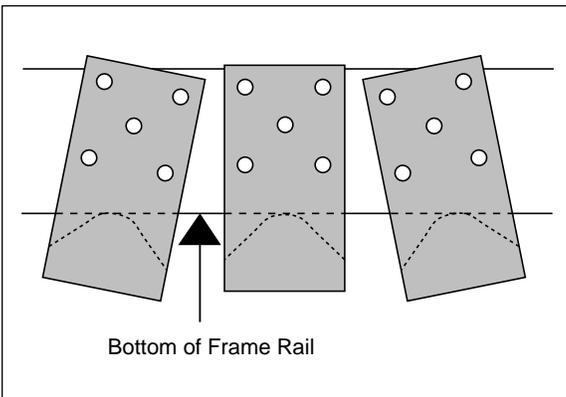
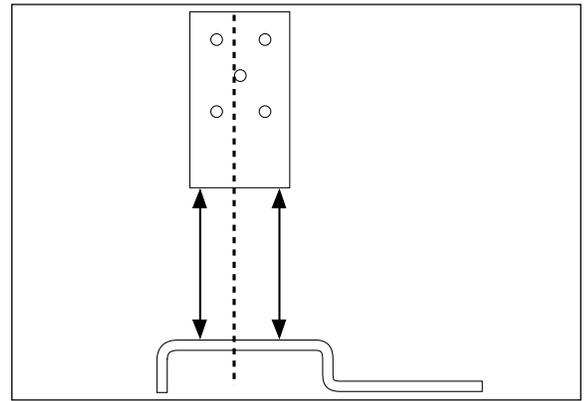
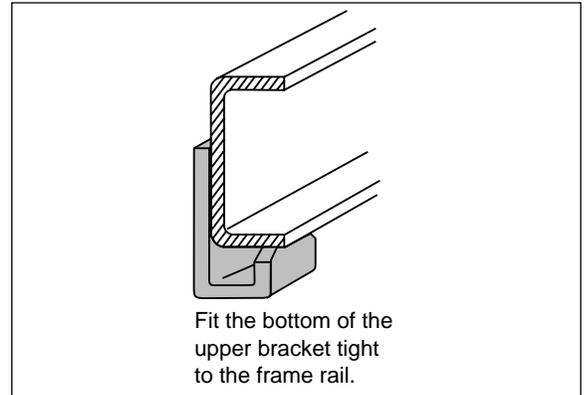

Figure 4
Figure 6
Figure 7
- The upper bracket must be parallel and perpendicular to the lower bracket (Figure 6). The upper bracket is designed so that it can be "titled" for the proper angle (Figure 4). The bottom of the upper bracket must fit tight to the bottom of the frame rail (Figure 7). It is necessary to use at least three of the five predrilled mounting holes in the upper bracket. Any combination of three is permissible. **CAUTION:** Do not drill any holes into the frame until all hydraulic lines, gas lines, and electrical wires have been moved aside on both sides of the frame rail. Using the bracket as a template, center punch and drill three $\frac{5}{16}$ " holes. **NOTE:** The holes must be no larger than $\frac{5}{16}$ ". Attach the upper bracket using the self-tapping frame bolts and tighten securely (Figure 1). Do not over tighten.